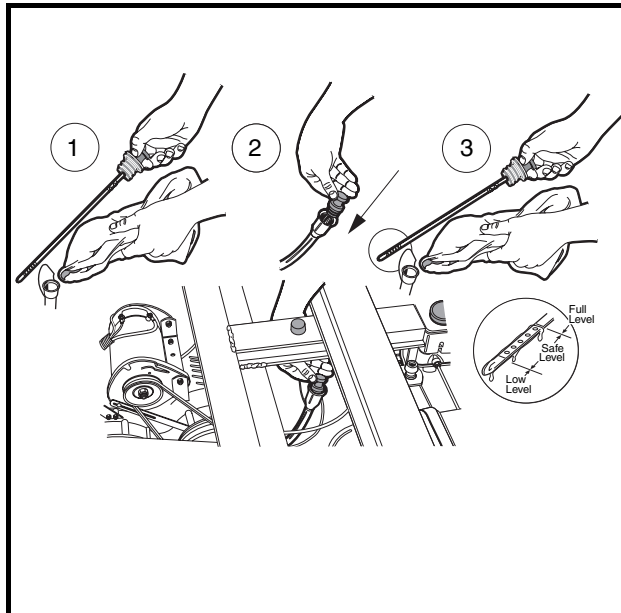

Figure 13-11 Check Engine Oil Level
9. Check engine oil level (**Figure 13-11, Page 13-10**).